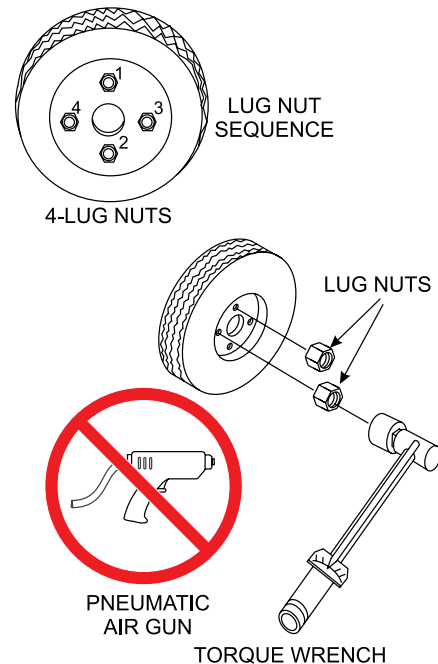

Figure 28. Lug Nut Torque Sequence
2. Torque all lug nuts (Figure 28) in sequence. **DO NOT** torque the wheel lug nuts all the way down. Tighten each lug nut in 3 separate passes as defined by Table 7.
3. After first road use, retorque all lug nuts in sequence. Check all wheel lug nuts periodically (Figure 28).